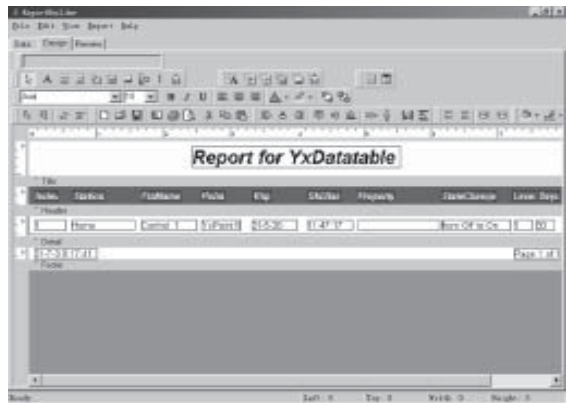

Fig. 7-7 Design the Report
(4) Design the Report: Select and click the button **Design** and it will enter the diagram of designing report as in Fig. 7-7. And then the user can design various reports according to the requirement.